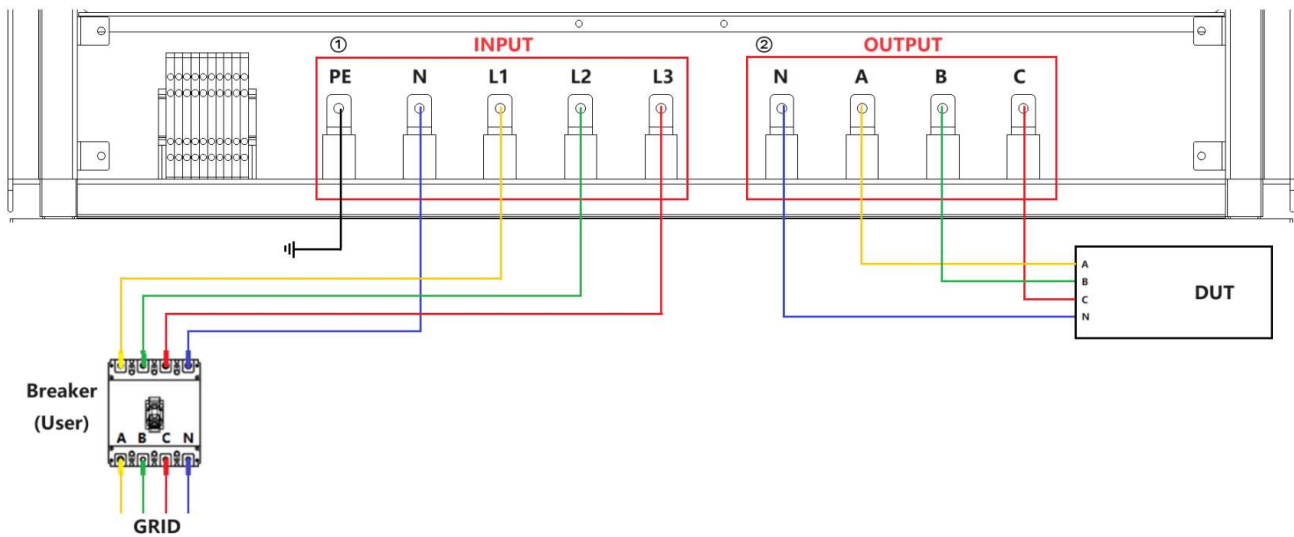

Figure 2-5 Equipment wiring completion status
Step 3: After completing the above work, the wiring status of power supply is shown in Figure 2-5. Restore the bottom baffle on the front side, close the cabinet door, then, the equipment installation is complete.